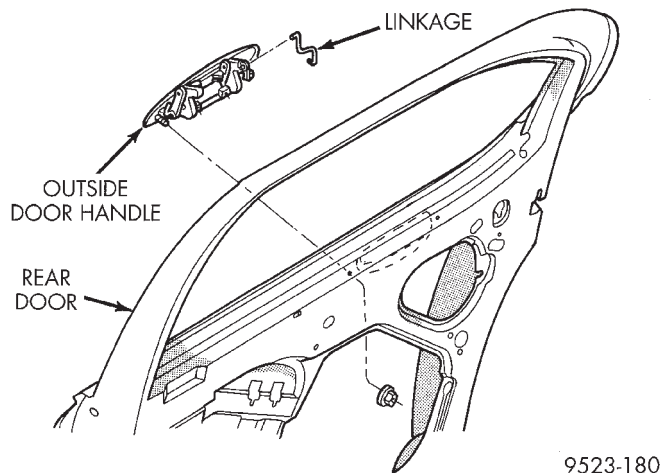

Fig. 41 Rear Door Outside Handle
- (1) Remove rear door trim panel.
- (2) Close door glass.
- (3) Disengage clip holding linkage to outside handle.
- (4) Separate linkage from outside handle (Fig. 41).
- (5) Remove nuts holding outside handle to outer door panel.
- (6) Separate outside door handle from vehicle.